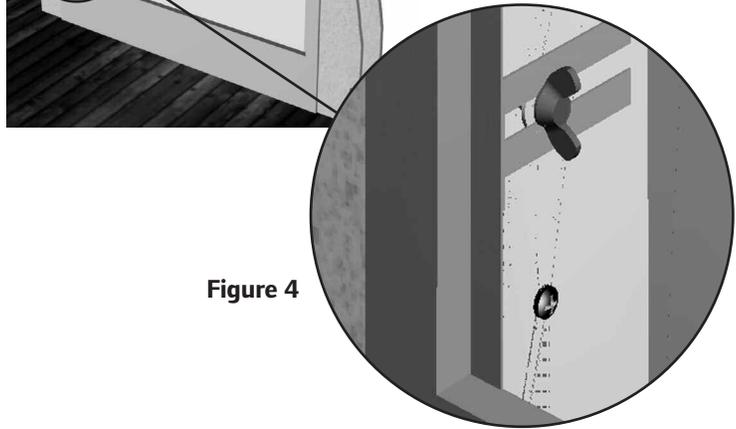

Figure 4
4. Secure by tightening the wing nuts. (See **Figure 4**.)